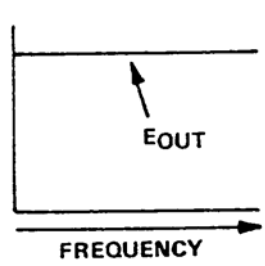

Figure K-9. Shorted Component Response Curve
i. If either component were to short, the resistor would have to drop all of the voltage at all frequencies. The response curve would look like Figure K-9. Once again, burnout could occur due to excessive current flow.